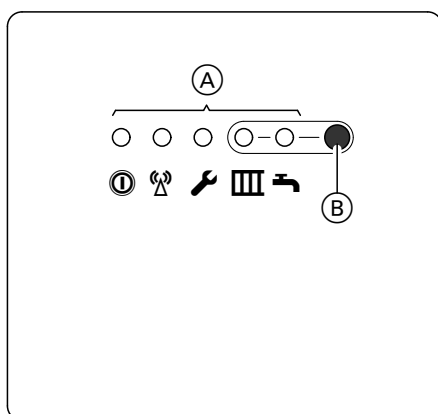

Fig. 10
1. Hold down service button (B) on the wireless receiver (see fig. 10) for approx. 5 s, until LED **🔧** flashes.
1. Repeatedly press service button **(B)** on the wireless receiver (see fig. 10) until the required function is activated: see the following table.
1. Hold down service button  on the wireless receiver (see fig. 10) for approx. 10 s, until LED  flashes.